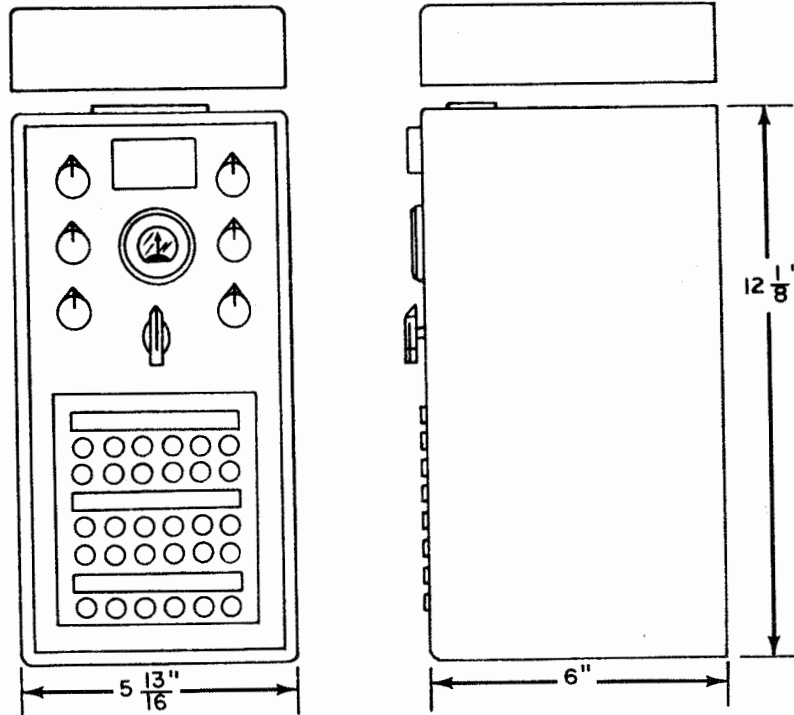

Figure 2-2. Outline Dimensions of SB-1203A/UG and SB-1210A/UGQ
a. LOCATION. - The panel is designed for shipboard use. It should be located at a place that has ample room for personnel to operate and maintain the unit. See figure 2-2 for over-all dimensions. Allow 15 inches for the front of the panel, which is hinged at the bottom, to swing open for access to interior components.